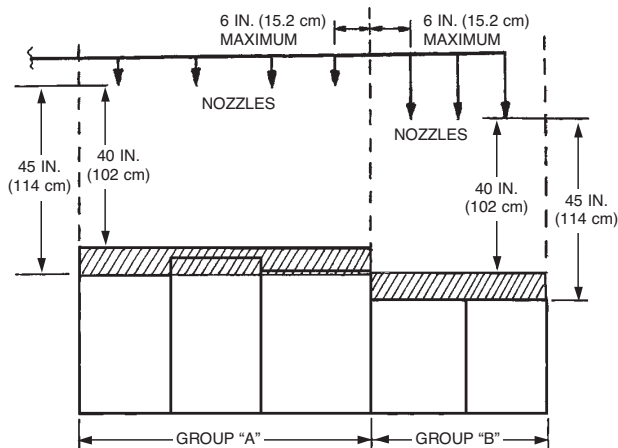

FIGURE 91h
- On protected appliances, all hazard surfaces located in a group must be within 40-45 in. (102-114 cm) from the nozzle(s). Once that dimension is exceeded, a new group must be started. See Figure 91h.